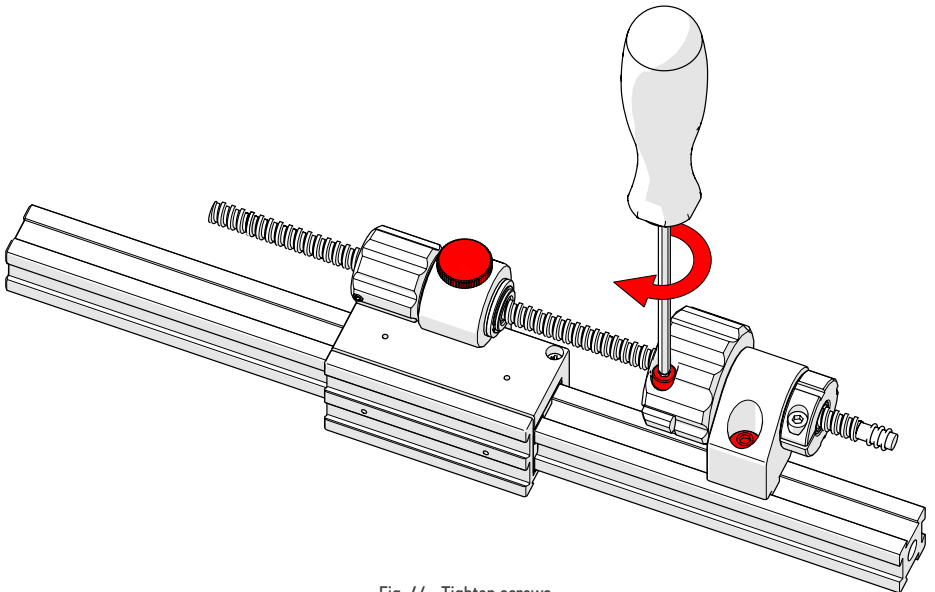

Fig. 64 - Tighten screws
7. Tighten the main knob's hexagonal screw and lock screw, and tighten the slider lock knob (Fig. 64 - note red highlight).